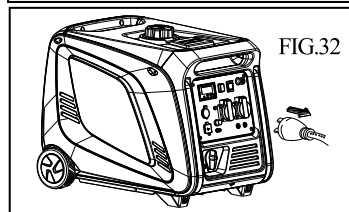

FIG.32
1. Turn off the power switch of the electric apparatus or disconnect any electric devices. **FIG.32**